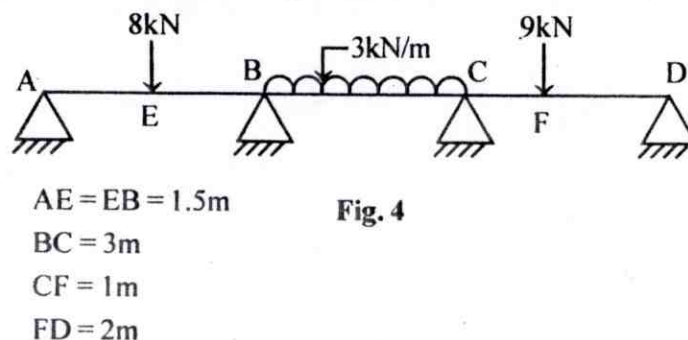

Fig. 4
2. A horizontal beam ABCD is supported on hinges at all the supports. The beam is loaded as shown in Fig. 4. Take moment of inertia as $2.4 \times 10^6 \text{ mm}^4$ and $E = 2 \times 10^5 \text{ N/mm}^2$. Solve the beam using moment distribution method if the support B sinks by 30mm and C sinks by 20mm down respectively from the original same level. Draw BMD and deflected slope of beam. (16)